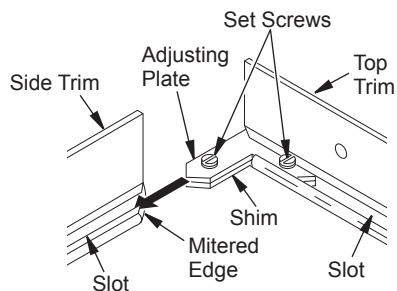

Figure 6 - Assembling Perimeter Trim
3. Align shim under adjusting plate as shown in Figure 6.
4. Slide one end of adjusting plate/shim in slot on mitered edge of top perimeter trim (see Figure 6).
5. Slide other end of adjusting plate/shim in slot on mitered edge of side perimeter trim (see Figure 6).